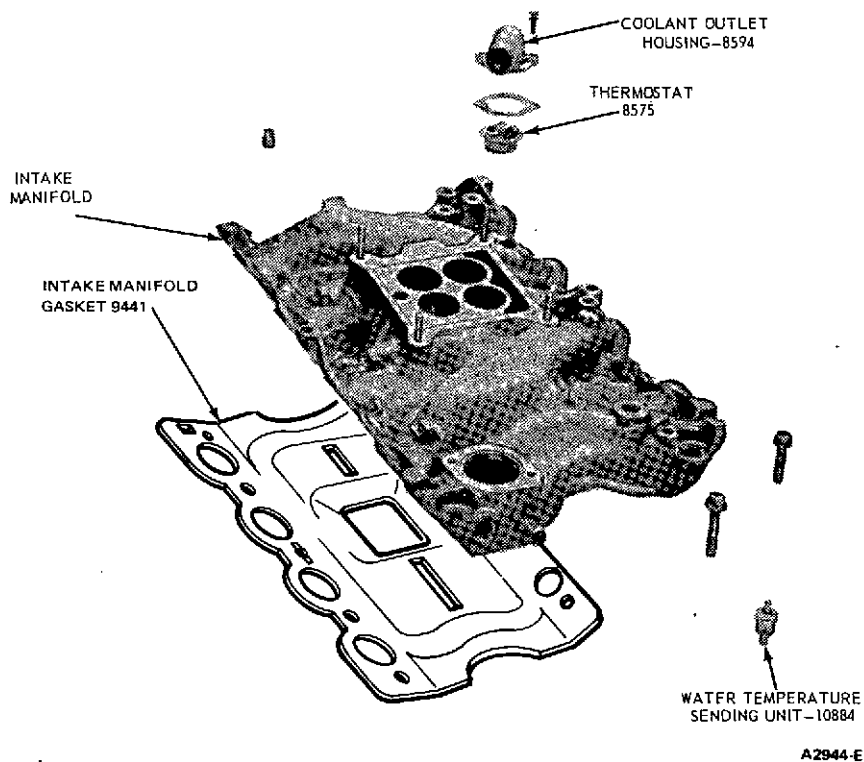

FIG. 39 Intake Manifold Disassembled
13. If manifold is to be further disassembled (Figure 39), remove coolant outlet housing, gasket, and thermostat. Remove automatic choke heat tubes, carburetor, spacer, and gaskets. Remove engine temperature sending unit. Discard all gaskets.